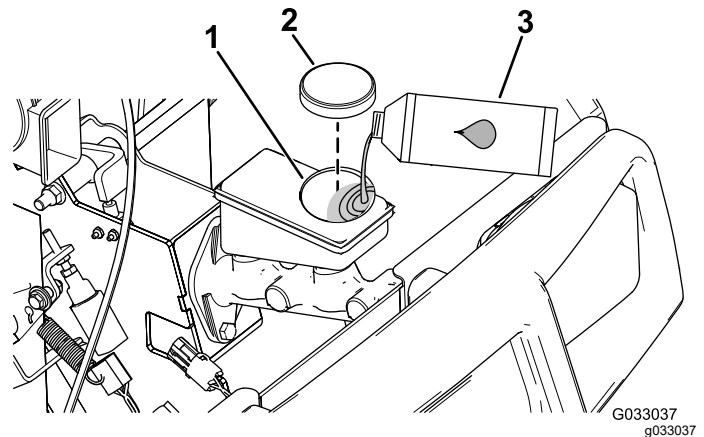

Figure 16
2. Raise the hood to gain access to the master-brake cylinder and reservoir (Figure 16).